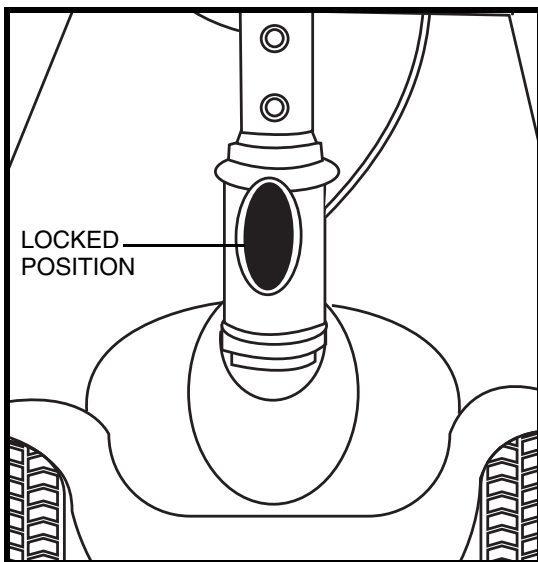

Figure 23. Tiller Lock knob (Locked)
1. Lock the tiller in the straight ahead position by pushing the tiller lock knob in and turning it clockwise 90°. See figure 23. The front wheel must face forward in order to lock the tiller.